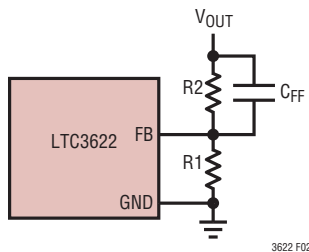

Figure 2. Setting the Output Voltage
**FB2 (Pin 10/Pin 11):** Feedback Input to the Error Amplifier of Channel 2 Step-Down Regulator. Connect resistor divider tap to this pin. The output voltage can be adjusted from 0.6V to VIN by:  $V_{OUT} = 0.6V \cdot [1 + (R2/R1)]$ . (Figure 2) For fixed VOUT options, connect the FB pin directly to VOUT.
**FB1 (Pin 12/Pin 13):** Feedback Input to the Error Amplifier of Channel 1 Step-Down Regulator. Connect resistor divider tap to this pin. The output voltage can be adjusted from 0.6V to VIN by:  $V_{OUT} = 0.6V \cdot [1 + (R2/R1)]$ . (Figure 2) For fixed VOUT options, connect the FB pin directly to VOUT.
The resistive divider allows the FB pin to sense a fraction of the output voltage as shown in Figure 2.
The initial output voltage step may not be within the bandwidth of the feedback loop, so the standard second order overshoot/DC ratio cannot be used to determine phase margin. In addition, a feedforward capacitor can be added to improve the high frequency response, shown in Figure 2. Capacitor  $C_{FF}$  provides phase lead by creating a high frequency zero with  $R_2$ , which improves the phase margin.